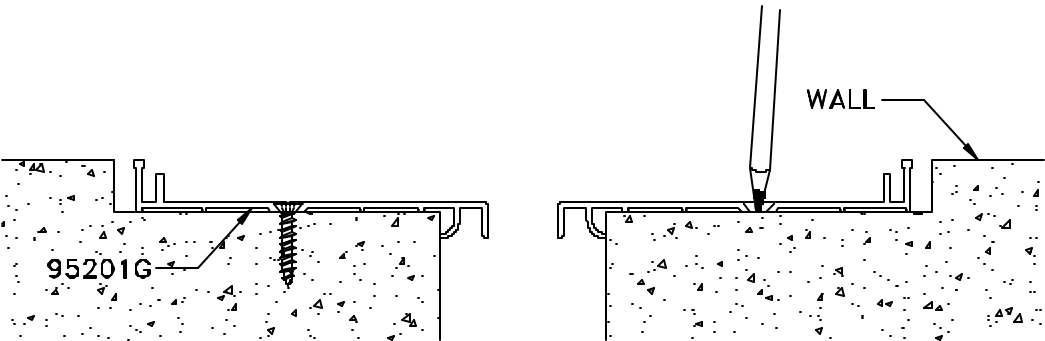
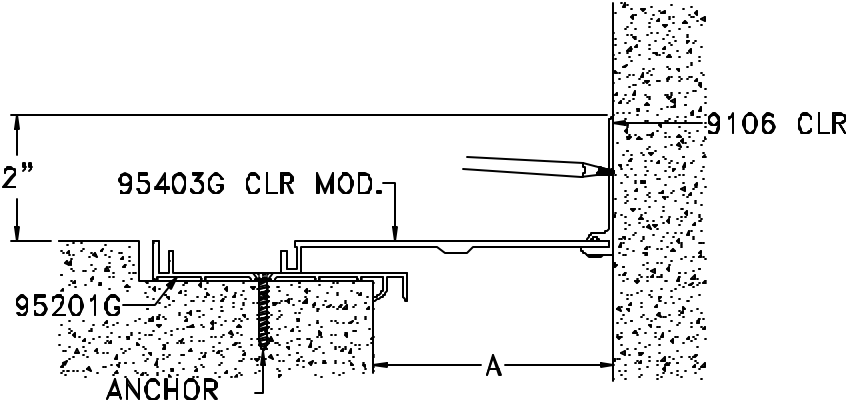

Figure 9
Figure 10
- STEP 19.** Using the base member or the corner wall cover plate as a template, mark the locations for the anchors on the wall (see Figure 9 and Figure 10).